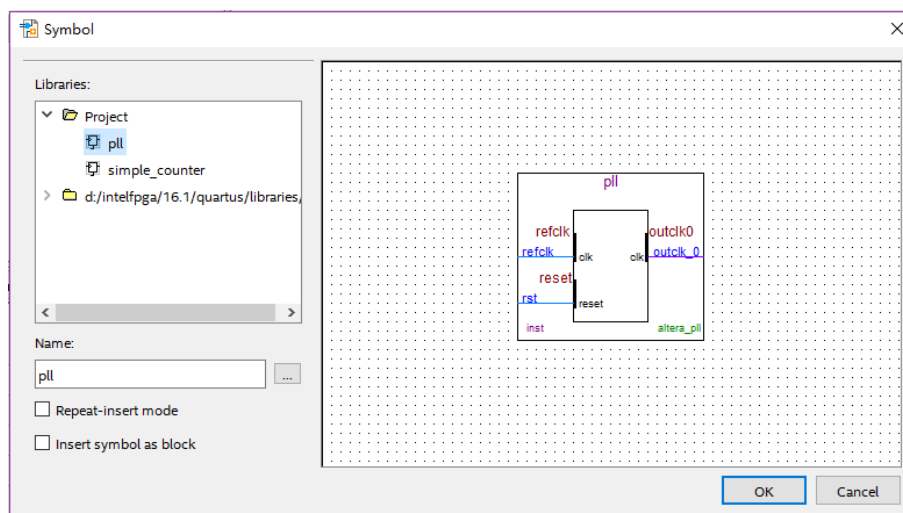

Figure 3-14 PLL Symbol
10. The Symbol window opens, showing the newly created PLL megafunction. See Figure 3-14.